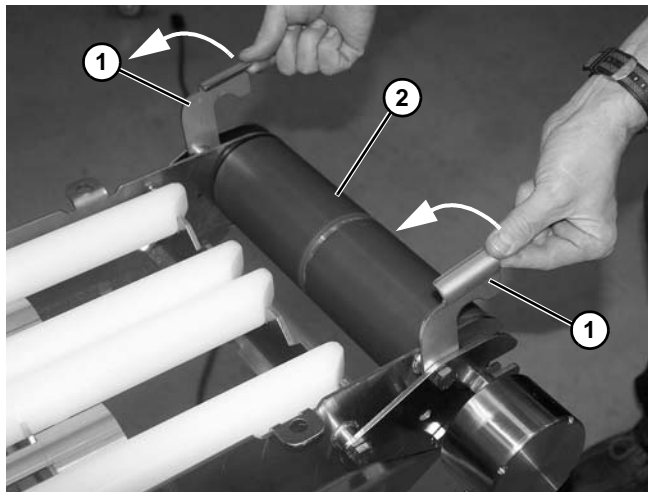

Figure 128
2. Lift each spindle guard (Figure 128, item 1) on each side, as shown, on drive end (Figure 128, item 2).